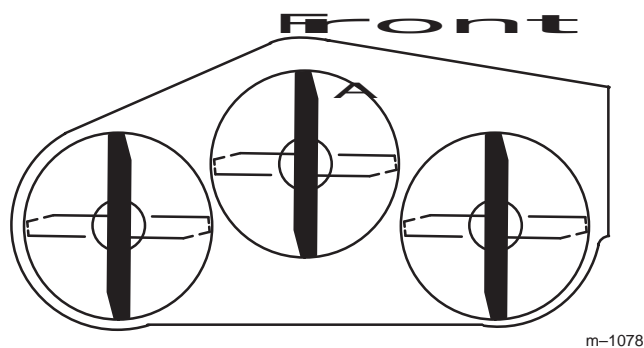
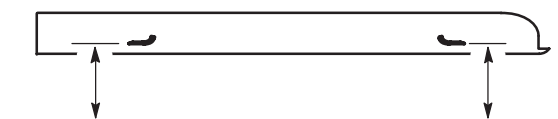

Figure 61
Figure 62
3. With the machine on level surface, position one blade front-to-rear (Fig. 61). Measure at "A" and from level surface to the cutting edge of the blade tips (Fig. 62).